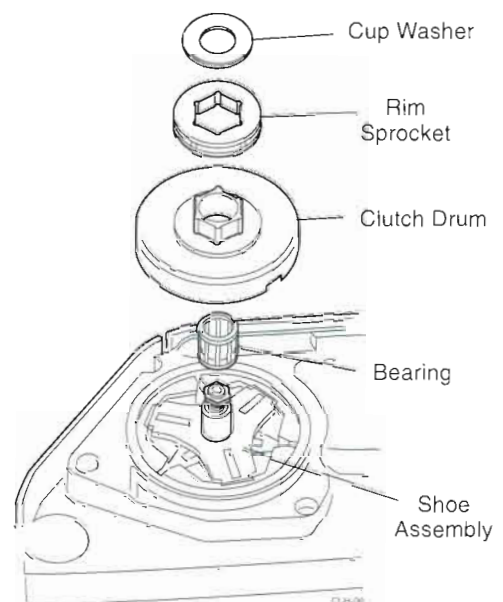

Figure 6.12 Drum Assembly
STEP 5. Remove the cup washer, and then remove the clutch drum and bearing. If the rim sprocket is to be replaced, it can be lifted from the clutch drum at this time. (Figure 6.12)